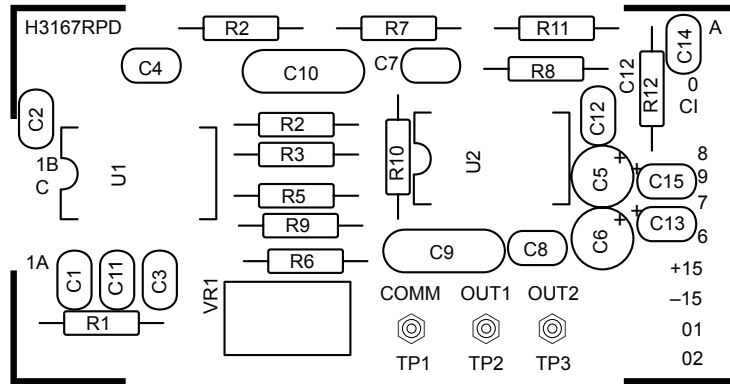

Figure 3. H3167 Circuit Board
2. Place the H3167 setup card (or a small piece of white card stock if the H3167 setup card is not available) about 1" from the H3167 detector lens and measure the output by placing a voltmeter between the COM test point (TP1) and each of the OUT (1 and 2) test points (TP2 and TP3) on the H3167 circuit board (see Figure 3). If each of the OUT test points reads 2.5 V dc or greater, then no further configuration is necessary and you may move on to step 5. Otherwise, see step 3.